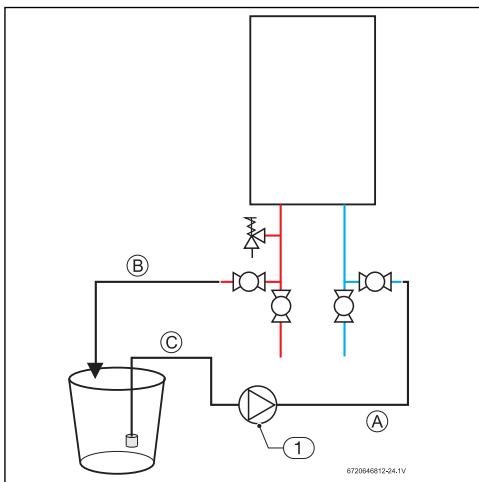

Fig. 59
- ▶ Connect a line (A) from the outlet of the circulating pump (installer supplied) to the inlet water fitting on the water heater (see fig. 59.)
- ▶ Using another line (B), connect the water outlet fitting on the water heater. Route the other end of this line into a descaling reservoir.
- ▶ Using a 3rd line (C) from the descaling reservoir, connect to the inlet side of circulating pump. Install a filter on the end of the line in the descaling reservoir.